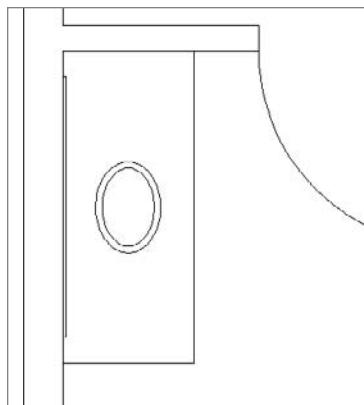

FIGURE 5.69 The completed sink fixture
9. Use the Offset tool to offset the ellipse 1" (25 mm) to the outside (see Figure 5.69). Leave the view on your screen as it is for a moment.